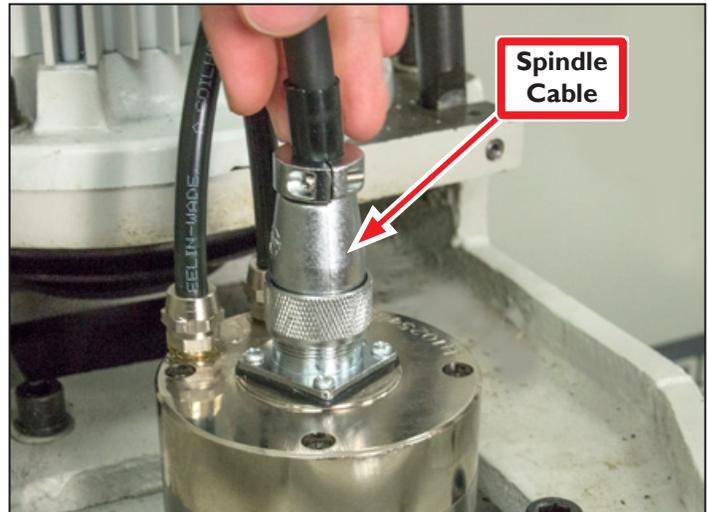

Figure 24
- Connect one end of Spindle Cable (included) to spindle motor; screw down threaded connector (see **Figure 24**).